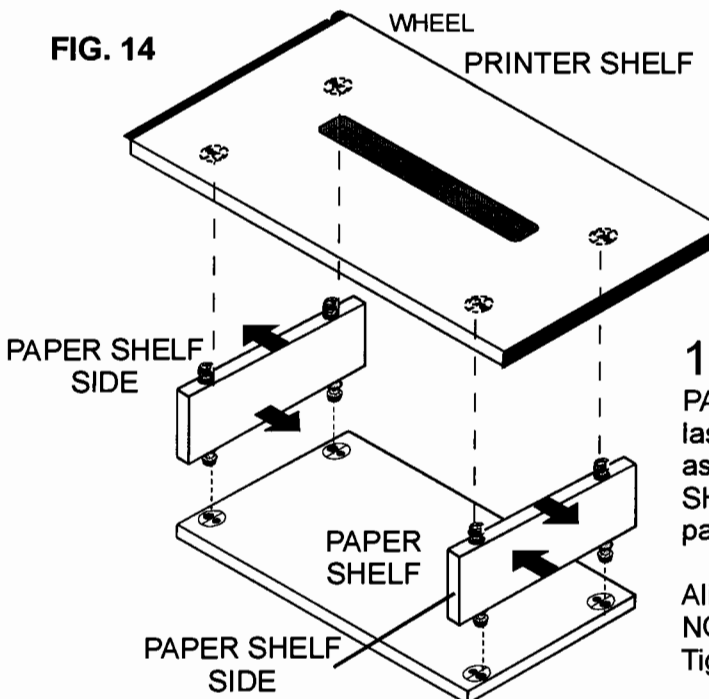

FIG. 14
PAPER SHELF MAY BE OMITTED for use with inkjet or laser printers. With PAPER SHELF laying on a flat surface, assembly fittings facing up, align and attach (2) PAPER SHELF SIDES. NOTE direction of ARROWS on edge of panels. FIG. 14 Tighten fittings.